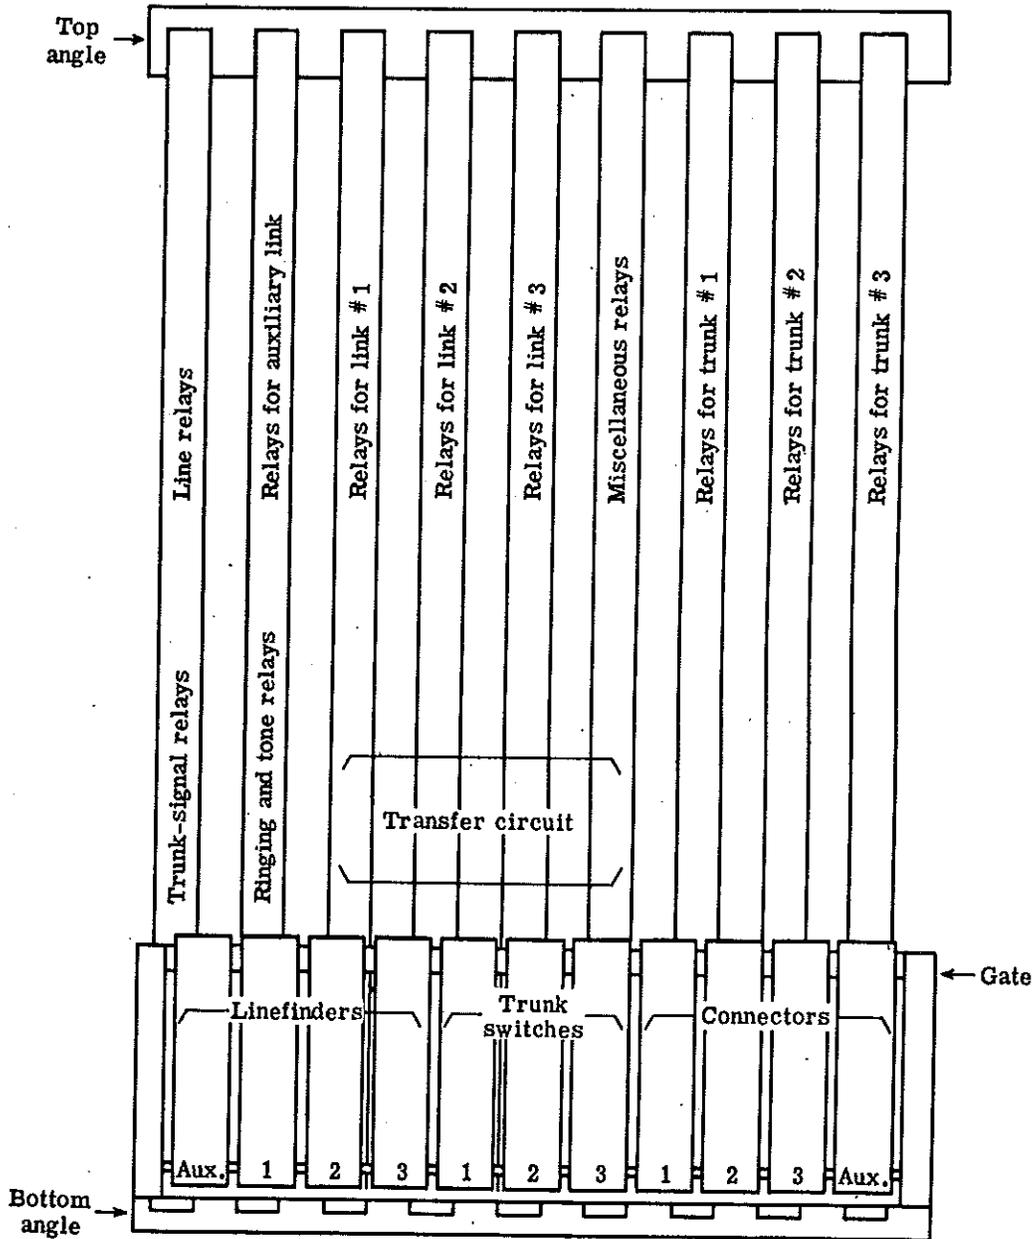

Figure 2. Switchboard, front internal view.
**2.1 Switchboard**—The switchboard is housed in a steel cabinet 40 $\frac{1}{2}$ " high, 27 $\frac{3}{4}$ " wide, and 13" deep. The cabinet and contents weigh 260 pounds (shipping weight, 300 pounds). Front and rear doors are provided on the cabinet. As illustrated in Figures 1, 2, and 3, all components or fixtures holding these components are attached to angle bars which are fastened across the top and bottom of the cabinet. All rotary stepping switches are fastened on a rectangular steel framework ("gate") at the base of the mounting framework. This gate is pivoted at its bottom so that the entire frame may be tilted forward, exposing the banks of the rotary switches. The various relay groups are assembled on relay strips and fastened vertically in the cabinet across the angle bars. Locations of the various relay groups are indicated in Figure 2.